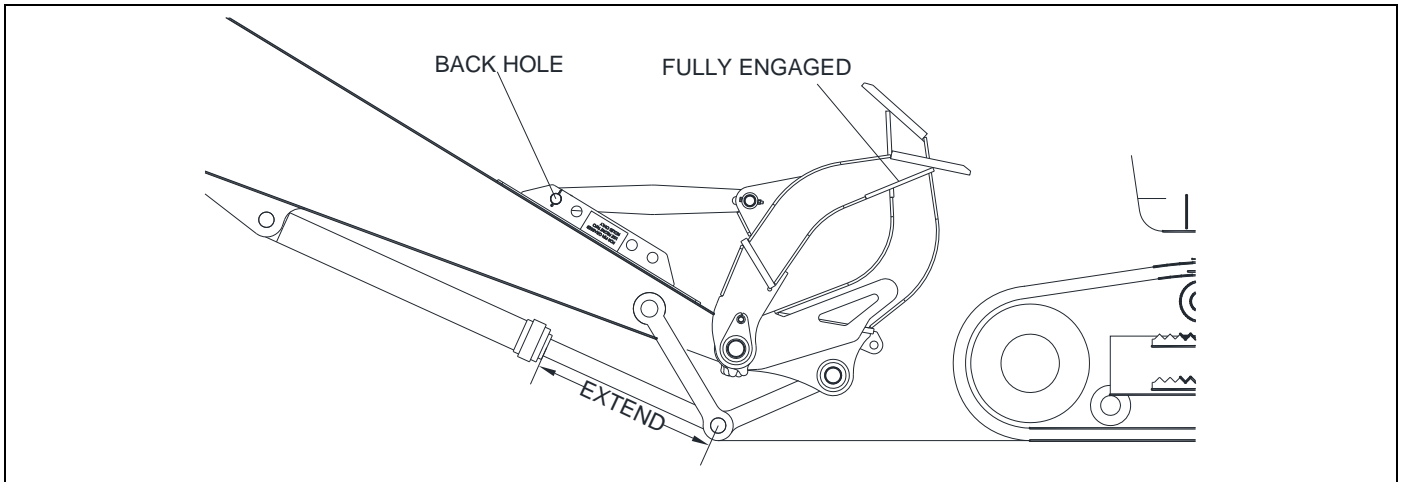
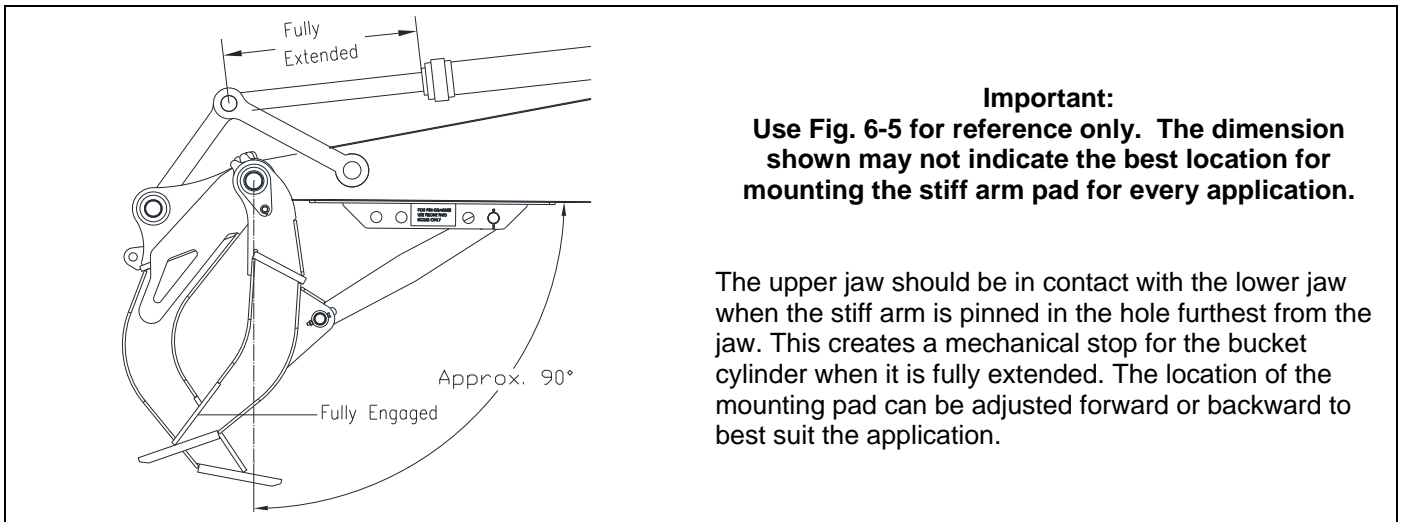

Fig 6-4 Direct Pin-on Mount. Position Stick As shown. Pin the Stiff Arm to Mounting Pad
Fig 6-5 Location of the Mounting Pad - Typical
The Allied ABG C-Series grapple is available in two basic configurations; Direct Pin-on and Pin Grab Coupler mounting. Instructions for installing the jaws, mounting pad and stiff arm are different between pin-on mounting and carriers equipped with pin-grab quick coupler. Refer to Fig. 6-4 and Fig. 6-6.
7. Carefully maneuver the stick into the position shown in Fig. 6.4.
Direct Pin-on Mounting. Refer to Fig. 6-4 and Fig. 6-5. With the upper and lower jaws in contact, pin the stiff arm to the back hole set in (furthest away from lower jaw). This creates a mechanical stop for the bucket cylinder when it is fully extended.
Fig. 6-5 is for reference only and indicates a suitable location for the mounting pad for most general-purpose usage. It may not indicate the best mounting pad position for specific job applications. The location may be adjusted to best suit the application.